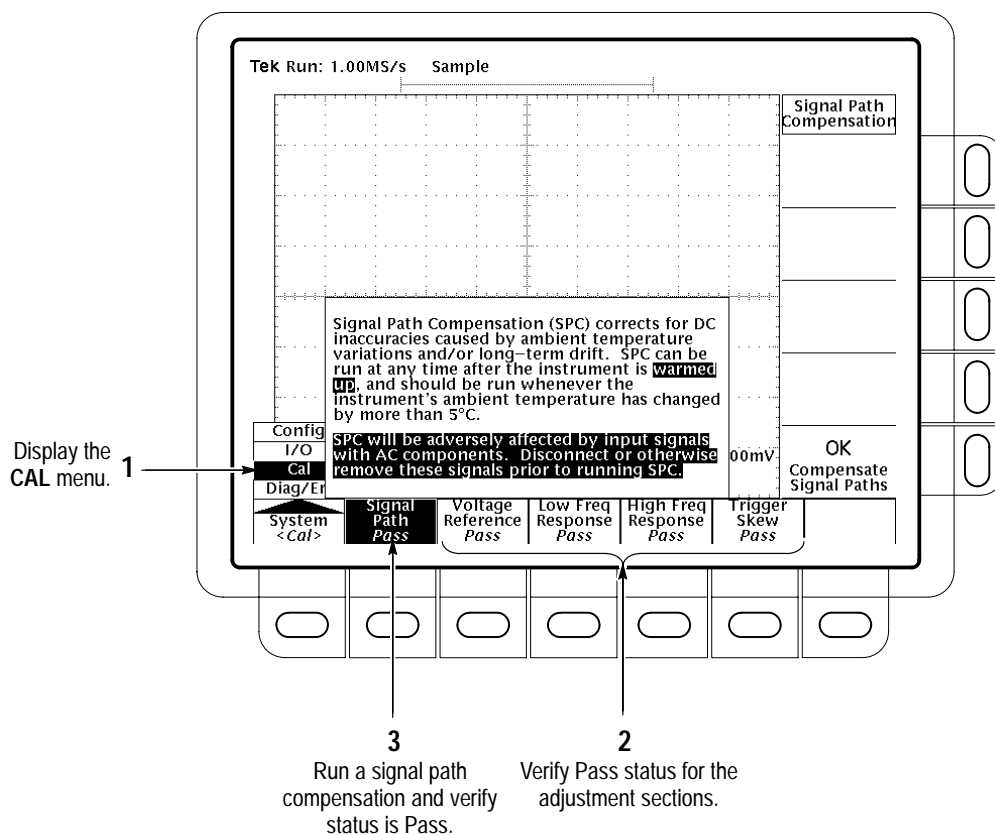

Figure 4–2: Verifying Adjustments and Signal Path Compensation
- Verify that the word **Pass** appears in the main menu under the following menu labels: **Voltage Reference**, **High Frequency Response**, **Low Frequency Response**, and **Trigger Skew**. (See Figure 4–2.)